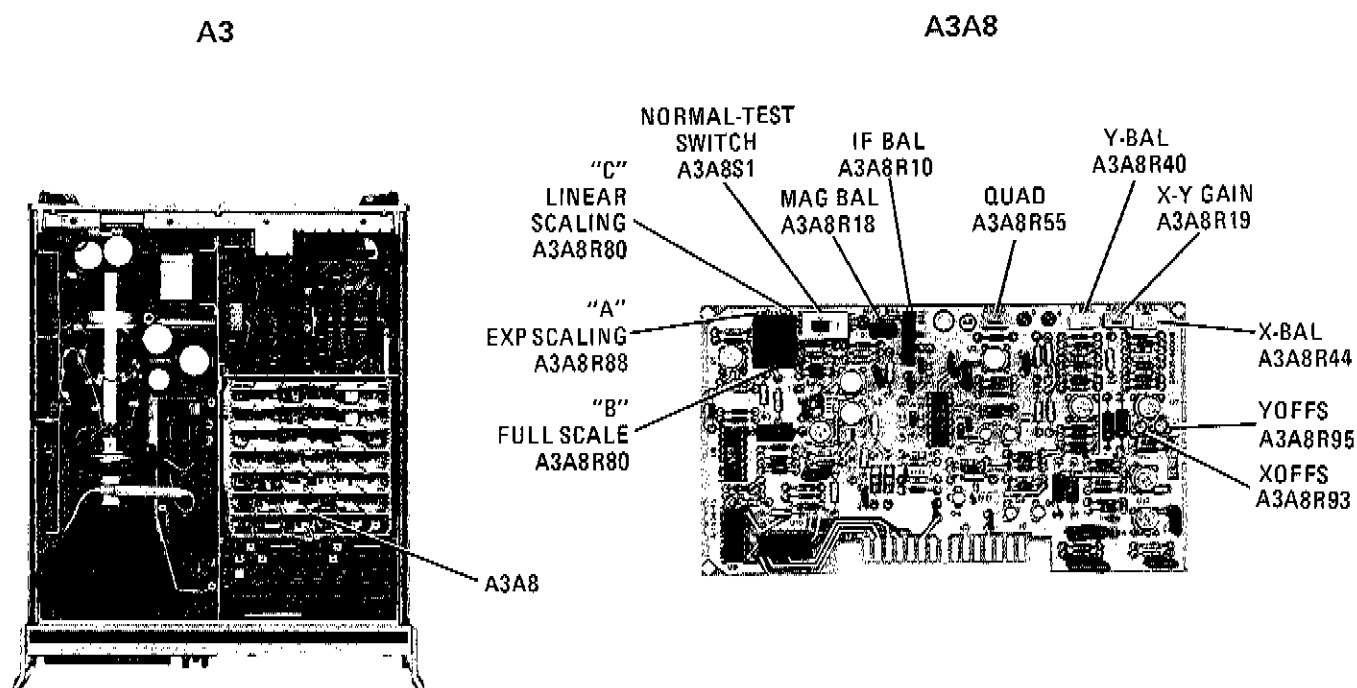

Figure A5-40. A3A8 Polar Converter Adjustments Location
- d. Adjust "MAG BAL" control A3A8R18 (Figure A5-40) to the center of its range. Adjust "IF BAL" control A3A8R10 for the smallest dot. Readjust "MAG BAL" control for the smallest dot. Release BEAM CENTER pushbutton. Set ELECTRICAL LENGTH MODE to OFF.